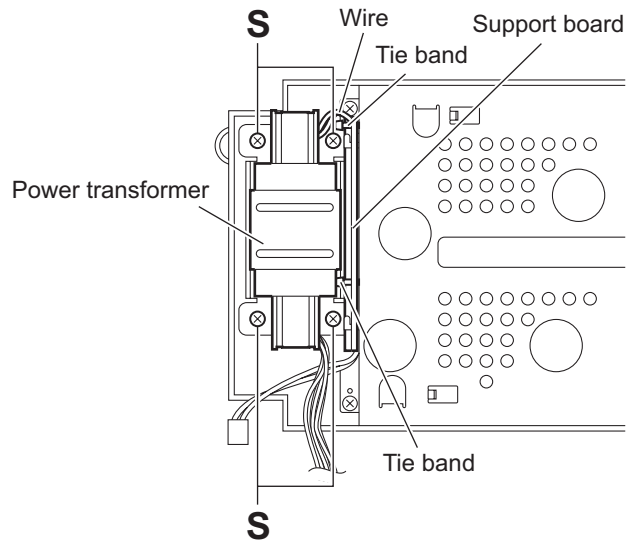

Fig.22
3.1.12 Removing the power transformer (See Fig.22)